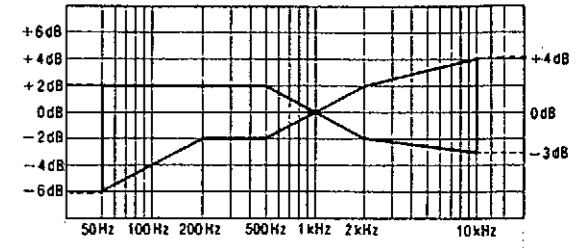

Fig. 8
4. Playback the recorded signal and assure that it is within the range shown in Fig. 8 in comparison to the reference frequency (1 kHz).